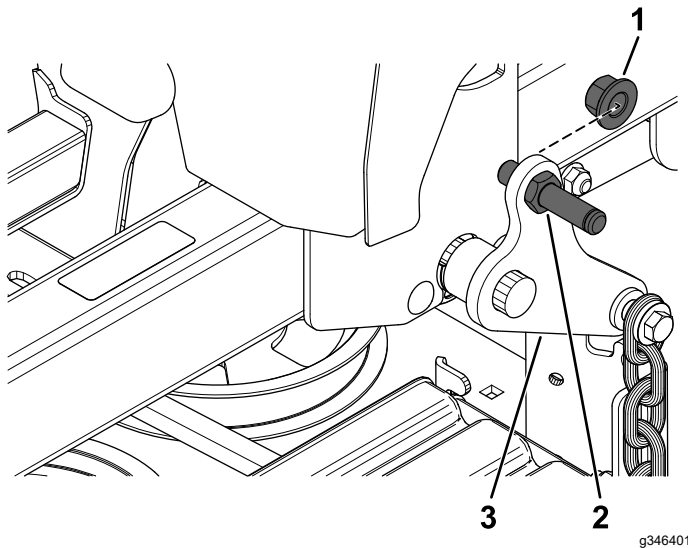

Figure 9
1. Secure the pivot pin to the rear deck-lift arm using 1 locknut (1/2 inch) as shown in Figure 9.